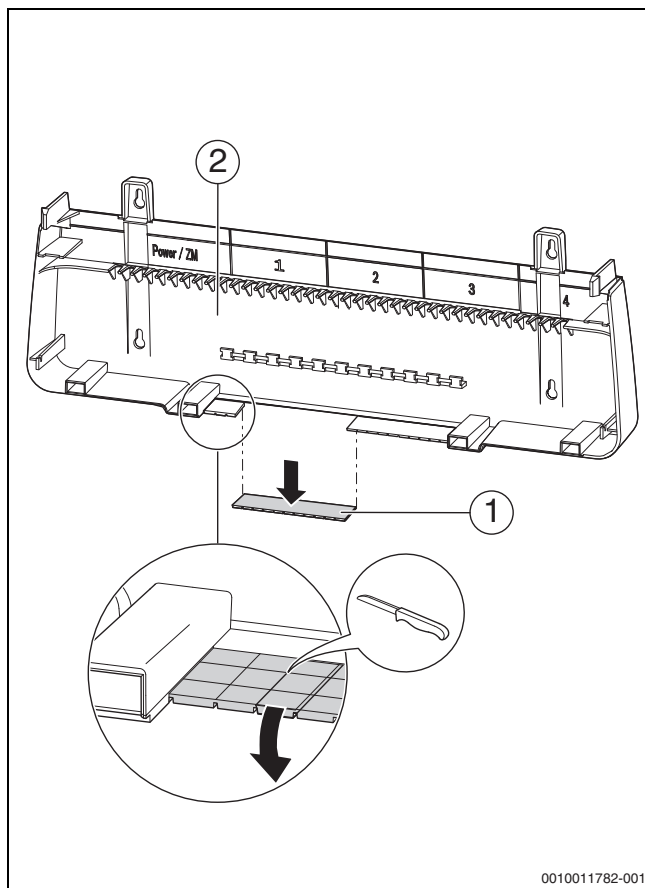

Fig. 32 Prepare the conduit
- Make knock-outs (→ Figure 32, [1], page 29) in the back panel of the cable entry.